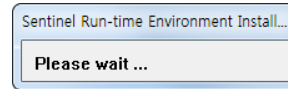

Figure 2.6 Installation of dongle Driver
- Installation status of the dongle driver will be displayed as shown in Figure 2.6.